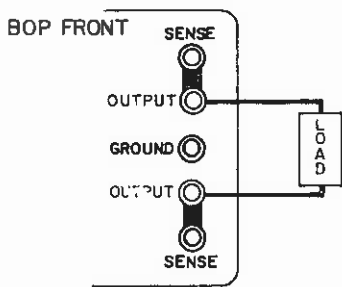
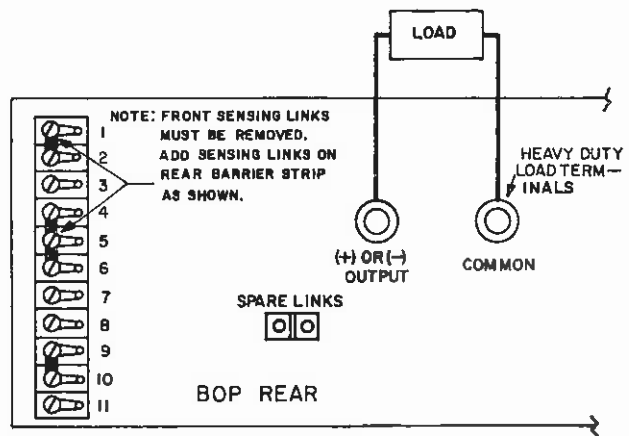

FIG. 3-1 LOAD CONNECTION, FRONT PANEL
FIG. 3-2 LOAD CONNECTION, REAR
- 3-5 **LOAD CONNECTION.** BOP models with functional front panels (models with suffix "M") have the links between output and error sensing terminals connected at the front panel binding posts. (See FIG. 3-1.) A pair of "spare links" are provided for these models at the rear (See FIG. 3-2) for the case where the load is to be connected at the rear. In the latter case, the front links must be removed and the rear links connected as shown. BOP models without functional front panel (no suffix) have the links connected at the rear as shown. (See FIG. 3-2)
- 3-6 The load may be connected to the heavy duty output terminals at the rear or at the front panel binding posts. (See FIGS. 3-1, 3-3, 3-4.) Load wires should be of the largest practicable diameter to reduce voltage drops due to load current and to keep the output impedance as low as possible. If specified d-c performance directly at the load is required, remote error sensing must be used as described below.